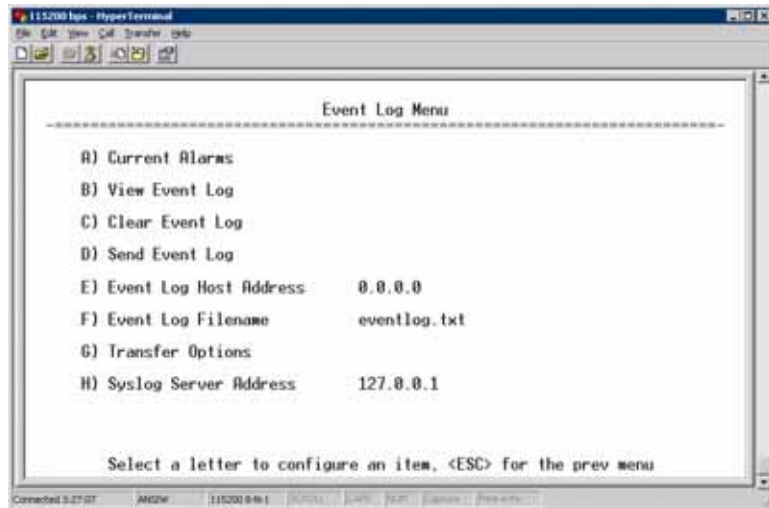

Figure 3-84. Event Log Menu
- **Event Log**—Access this menu for managing the unit’s operational activities log. (See Figure 3-84 on Page 112 for details.)